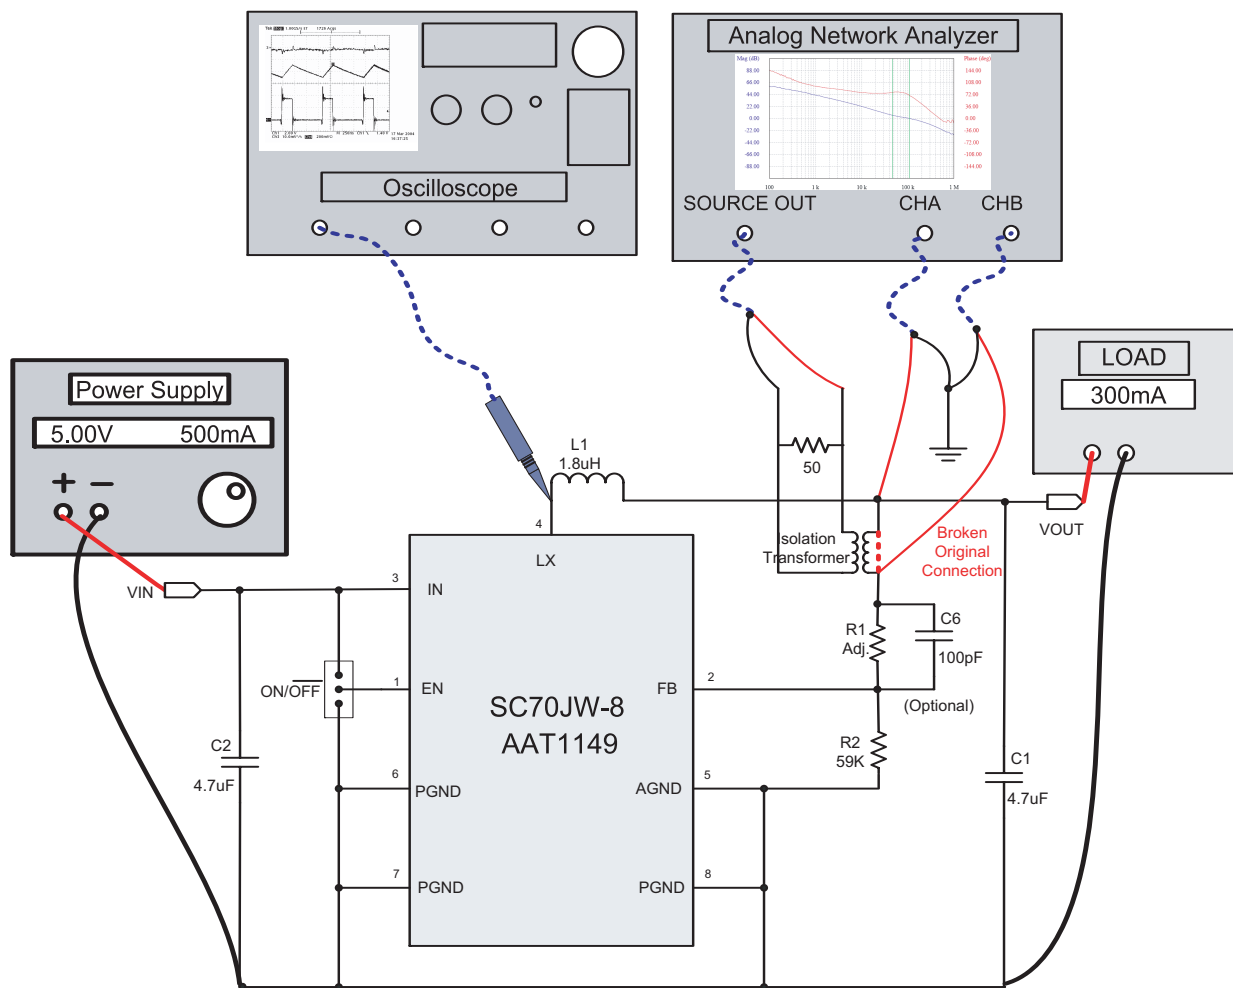

Figure 9: AAT1149 Schematic Connection Diagram for Gain and Phase Margin.
1. Break the feedback loop and insert a one-to-one isolation transformer between the broken original connection. Configure the specified test equipment as shown in Figure 9.